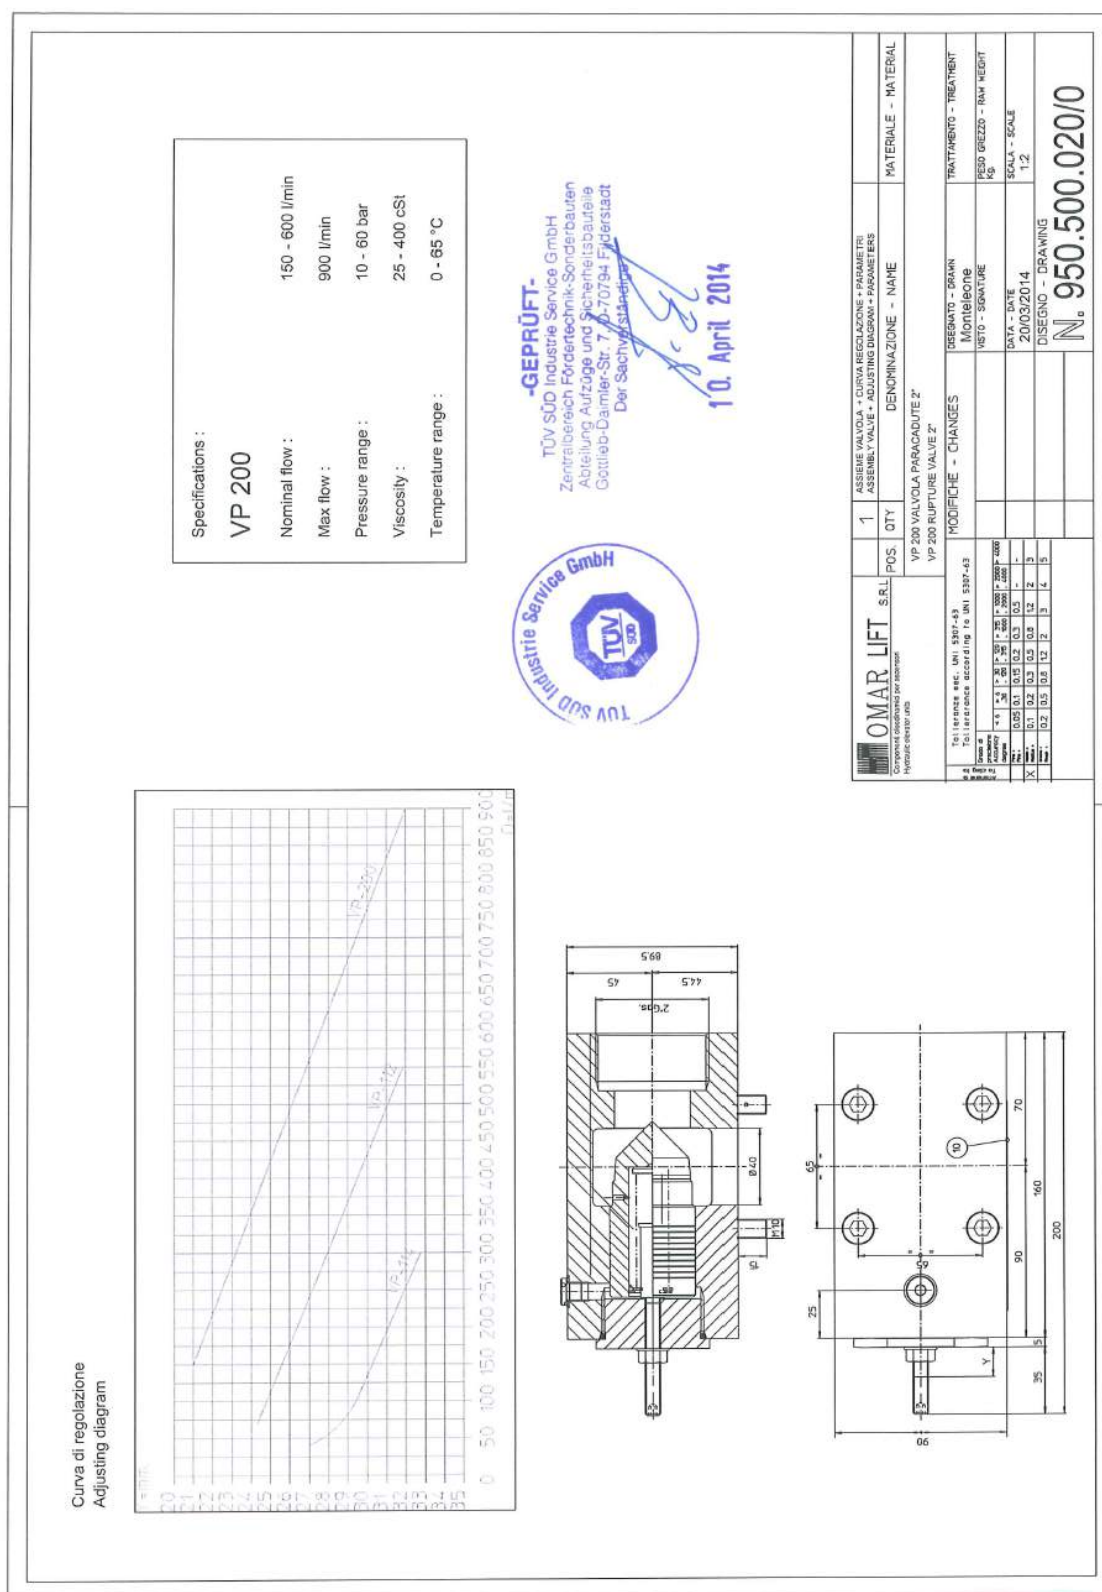

Figure 31 – Example of rupture valve with Notified Body approval (TÜV SÜD)
- For each rupture valve size there is an assembly drawing with Notified Body approval stamp, as per example shown in Figure 31